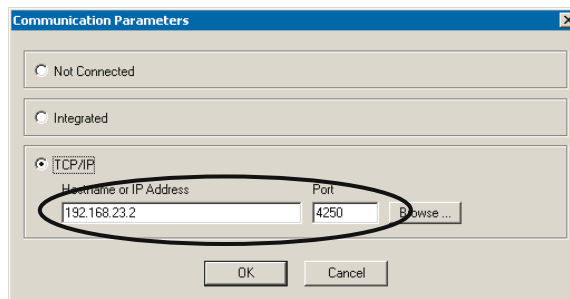

Figure 6.19 PSD controller > Settings pop-up window
- 3.2. Enter the IP address **192.168.23.2** and the port **4250** (see Figure 6.19).